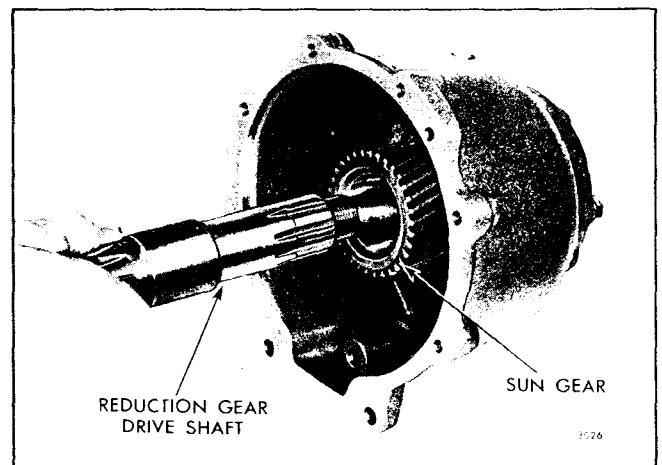

Fig. 98 - Installing Reduction Gear Drive Shaft in Sun Gear and Bearing (1.5:1 Ratio)
- a. Lubricate the bearing contact surface of the reduction gear drive shaft with engine oil; then, insert the drive flange end (threaded end) of the drive shaft straight through the sun gear and the drive shaft bearing from the forward face of the gear housing as shown in Fig. 98.